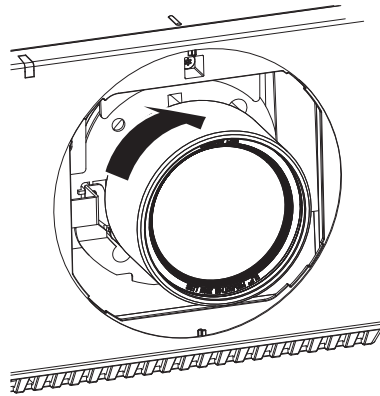

Fig. 2
- 2) **Turn the projection lens clockwise until it clicks. (Fig. 2)**